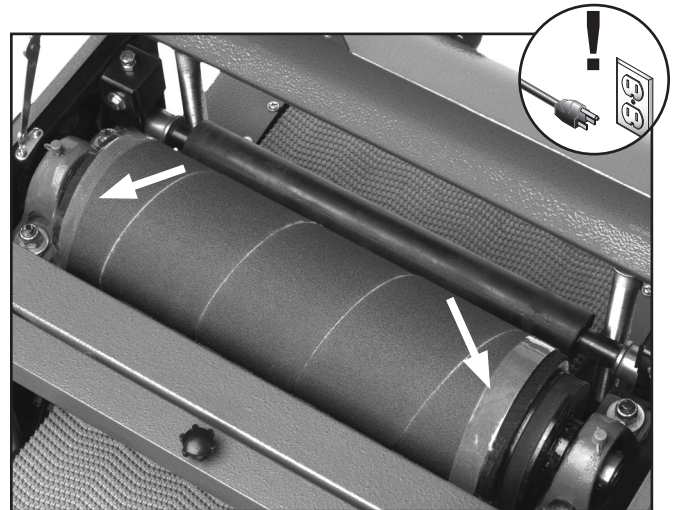

Figure 12. Sandpaper ends taped on Model G0459.
6. Tape both ends with 3/4" strapping tape (**Figure 12**), making at least two complete passes so that the second layer is directly on top of the first.